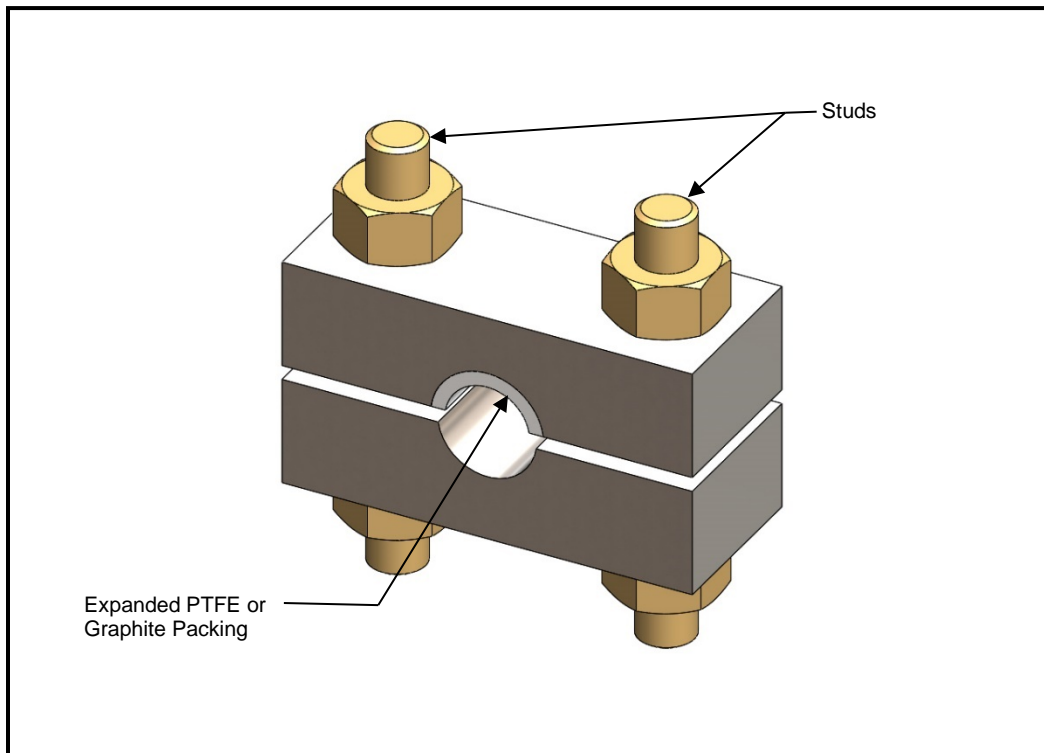

Figure 1
2. Loosely assemble the Block-Style PLIDCO Smith+Clamp on the pipe next to the leak. Note the gasket is in one half of the block only. (See Figure 1)